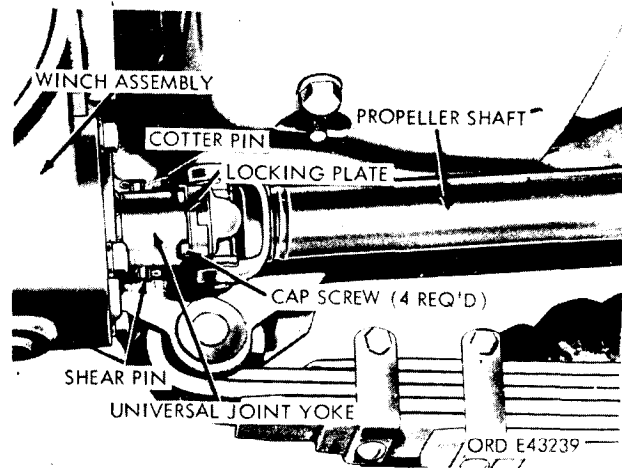

Figure 2-265. Front winch and propeller shaft—bottom view
(1) Attach the hoisting equipment to the winch and hoist until the slack is just removed from the chain or cable.
(2) Separate the propeller shaft front universal joint from the yoke (fig. 2-265) on the winch drive shaft.
(5) Connect the propeller shaft front universal joint to the yoke (fig. 2-265) on the winch drive shaft.
(6) Remove the hoisting equipment from the winch.
*c. Shearpin Replacement (fig. 2-265).*